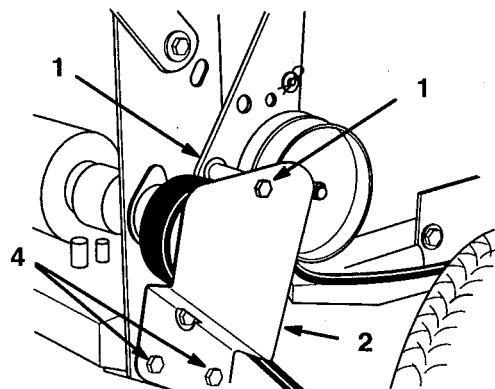

Figure 28
1. Remove top capscrew securing idler support and idler bracket to rear frame (Fig. 28).
2. Loosen bottom two mounting screws enough to allow belt to pass between drive pulley and idler support (Fig. 28).